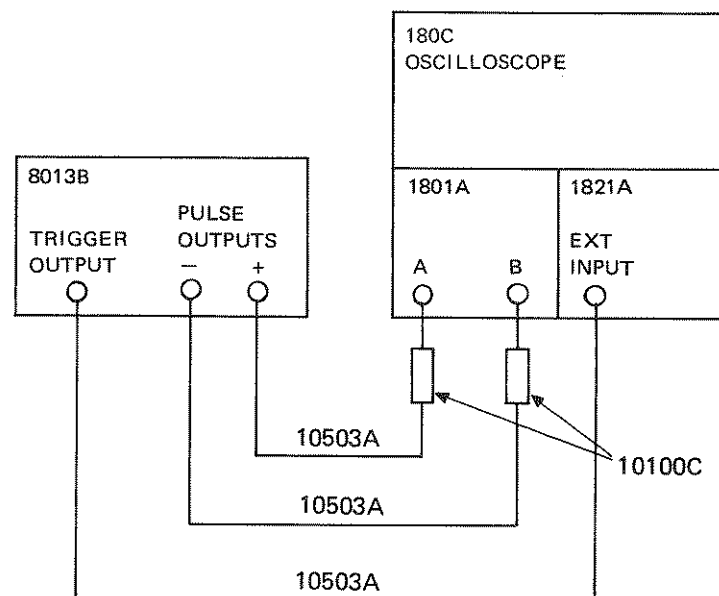

Figure 3-4. Initial control settings and test equipment
3-14 In this mode the 8013B requires no external signal to produce an output signal. Rate, delay, width, amplitudes etc. are all adjustable from the front panel controls. The initial control settings (also shown in Figure 3-1) are given to assist someone unfamiliar with the operation of the 8013B. The positive and negative pulse outputs (17) and (18) and the TRIGGER OUTPUT (21) should be connected to an oscilloscope using a 50 ohm system (as shown in Figure 3-4). The oscilloscope (an HP 180C mainframe with 1801A and 1821A plug-ins) should be set with the sweep time at  $20\mu\text{s}/\text{div}$  and the sensitivity at  $2\text{V}/\text{div}$ .